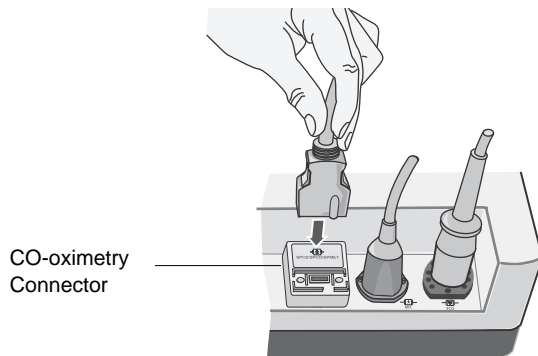

Figure 2
4. Connect the patient cable to the CO-oximetry connector at the back of the E Series unit (see Figure 2).
- Connect the patient cable to the CO-Oximetry connector on the back of the E Series unit as shown in Figure 2 on page 4.